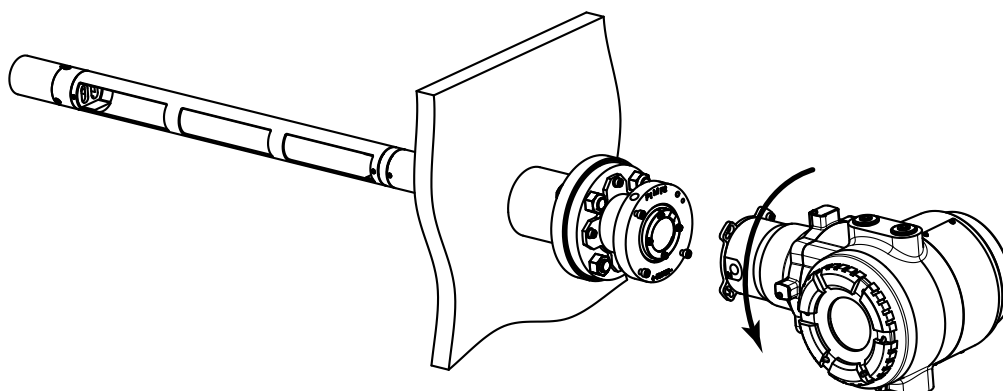

Figure 9.9 Removing from the process
- (1) Using a hex wrench (5 mm), remove only the upper right screw of the quick connector (see Figure 9.9).
- (2) Loosen the other screws.
- (3) Slowly turn the TDLS8100 counterclockwise to remove the analyzer from the probe.